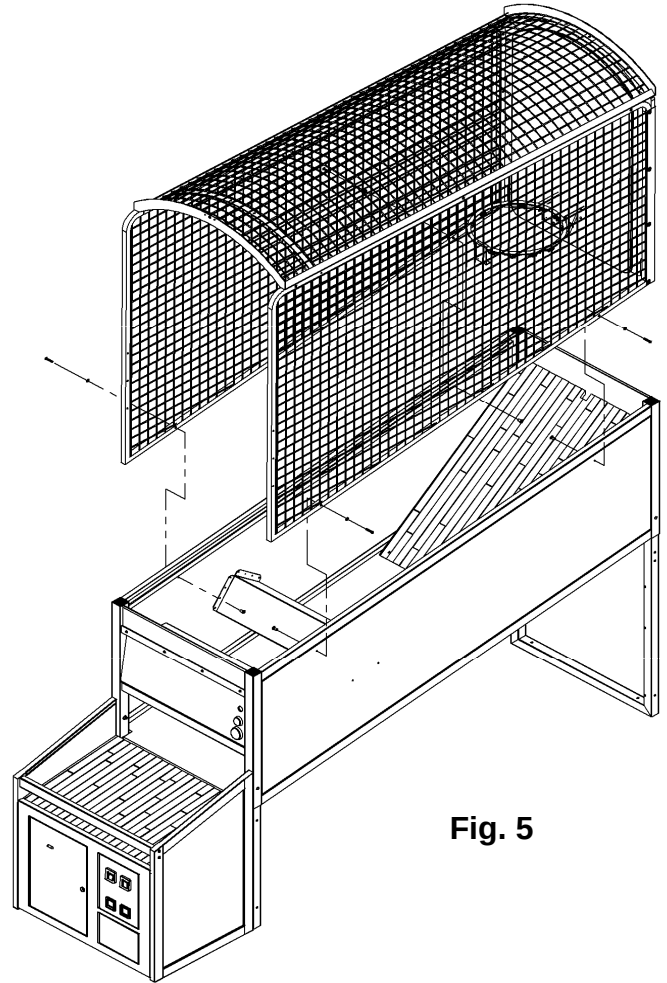

Fig. 5
9. Install the Cage Frame assembly to the game. Install by lifting the frame outside the game to mounting hole and secure with (4) 1/4-20 X 1 1/2" button head screws, (4) flat black washers (from the outside of the Cage Frame) and (4) 1/4-20 joint connectors. (from the inside of the cabinet) (See Fig. 5)